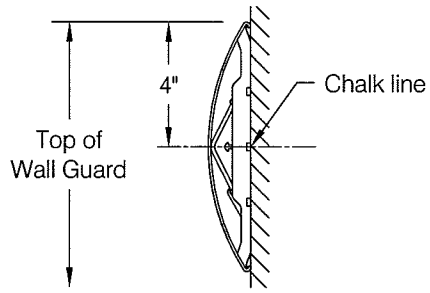

fig 1
**Step 1:** Determine top of wall guard height and snap a chalk line 4" below to locate centerline of wall guard and to provide a reference line for locating WG-7C Quik Clip retainers, see **fig 1**.